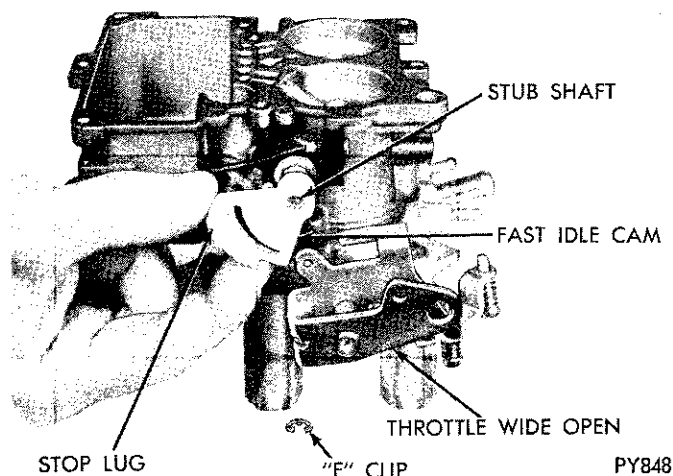

Fig. 14—Removing or Installing Fast Idle Cam
(19) Remove fast idle cam retaining "E" clip, then slide fast idle cam off stub shaft (Fig. 14).
(20) Invert main body and remove throttle body to main body attaching screws. Separate bodies and discard gasket.
(21) Turn idle limiter caps to stop. (Top of throttle lever side and bottom of stop on other.) Remove idle limiter caps by prying off with suitable tool. (Be careful not to bend screws.) Be sure and count number of turns to seat the screws, as the same number of turns (from the seat) must be maintained at installation. Remove screws and springs from throttle body.
(6) Install fast idle cam on air horn stub shaft, with steps toward fast idle adjusting screw. Install "E" clip to secure (Fig. 14).
(7) To install fast idle connector rod, engage plain end in slot of fast idle cam (from inside). Engage other end of rod in choke lever. With choke valve wide open,